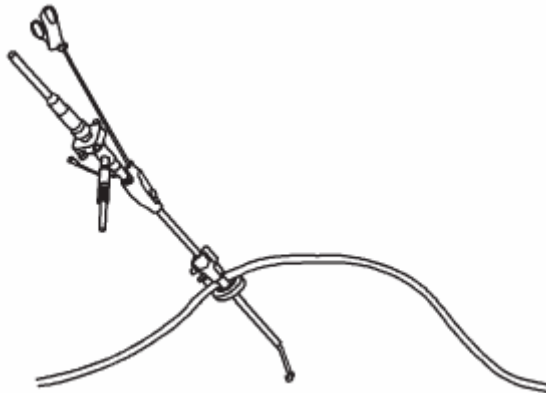

Figure 4
- 5) Insert the VasoView™ Uniport™ Plus Dissection Cannula back through the BTT Port (Figure 4). Move the distal end of the cannula to the target location.